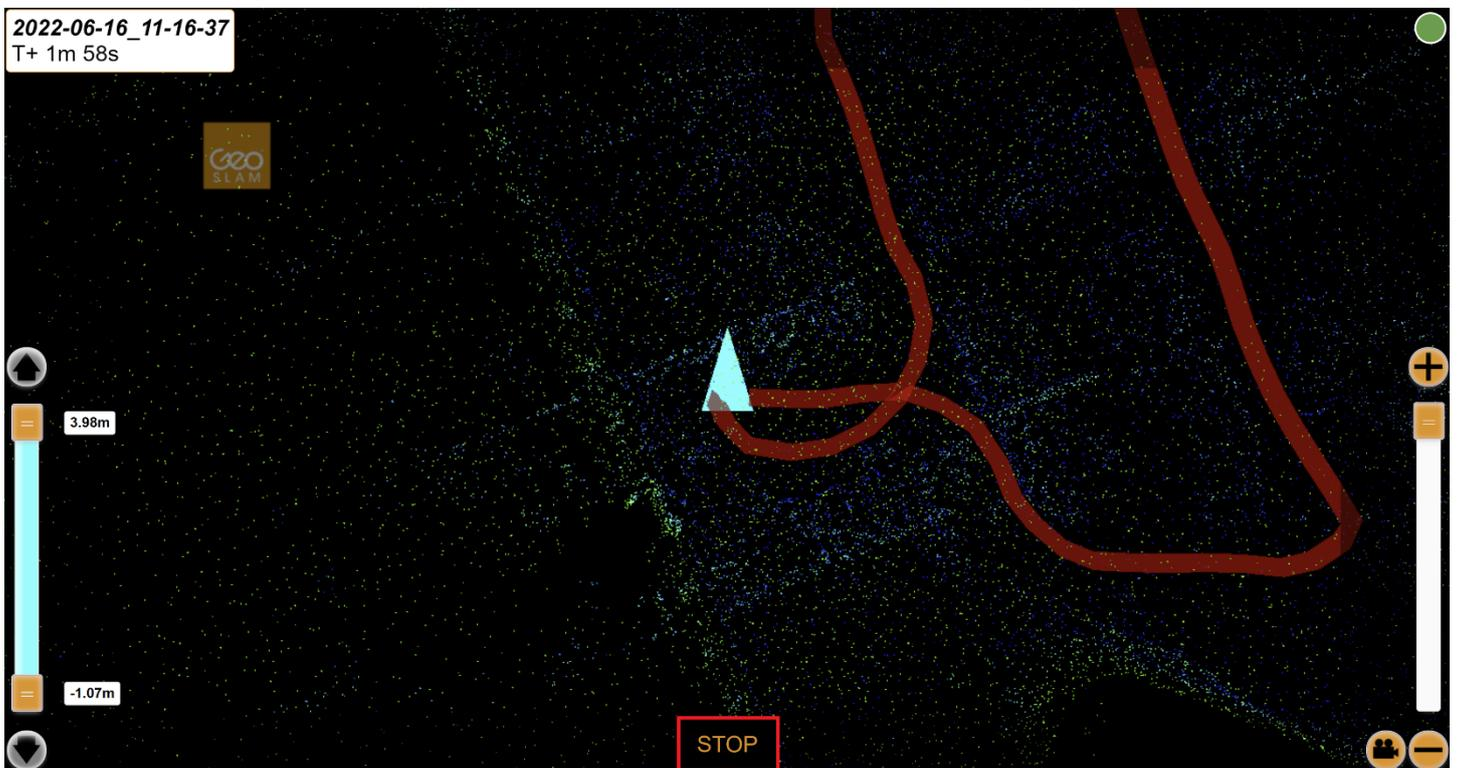

Figure 8-6
Step 8: When the survey is complete position the ZEB Horizon RT scan head in approximately the same position as used for initialisation and click the STOP button on the display screen (Figure 8-6).